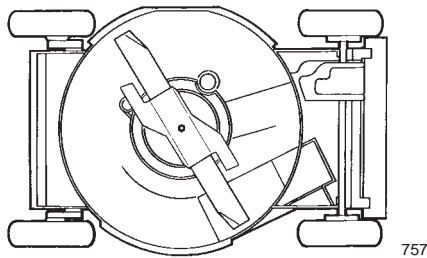

Figure 16
To ensure the best performance, keep the underside of the lawn mower housing clean (Fig. 16).
3. Tip the lawn mower onto its **right** side (Fig. 16).